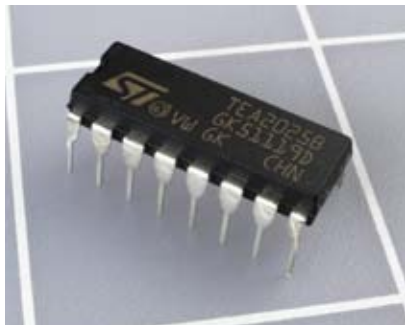

Figure 5-36. This single chip contains a stereo amplifier capable of delivering a total of 5 watts into an 8 Ω speaker when the two channels are combined.
- Audio amplifier, STMicroelectronics TEA2025B or similar. Quantity: 1. See Figure 5-36.